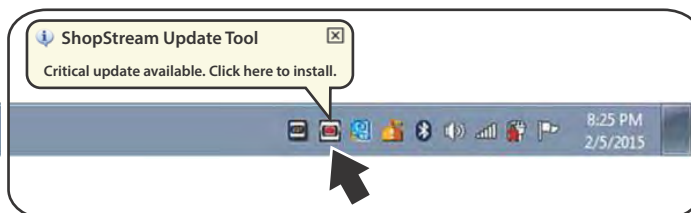

Figure 15-10 Typical upgrade installation message
1. Select the software upgrade available message (Figure 15-10), or the SST icon from the Windows taskbar notification area.